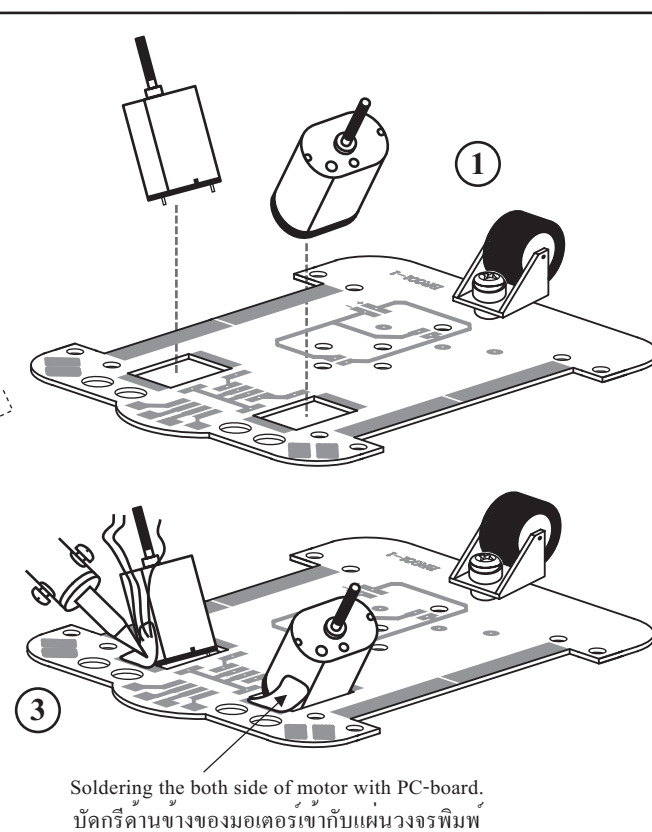

Figure 6 Motor Assembling to BR001-1 Board.
2. Insert both motors into the rectangular slots by keeping them an inclined positions before soldering. Make sure that the positive motor pole marked with silver point being matched with the provided right positions of the BR001-1 board. After having soldered both motor poles to the PCB, try to lay down the robot. The PCB should be in a parallel position to the floor. If not so, incline the PCB to be parallel to the floor and then solder motor bodies to the PCB, as shown in Fig. 6.